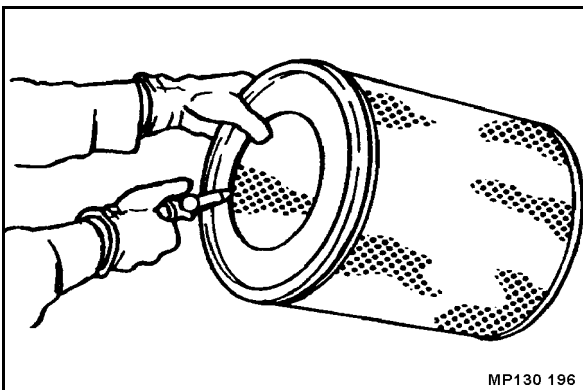

Fig. 189
- Blow the air filter (Fig. 189) out with dry compressed air (max. 5 bar (70 psi)) from inside to outside by moving the gun up and down inside the element, until it is free of dust.